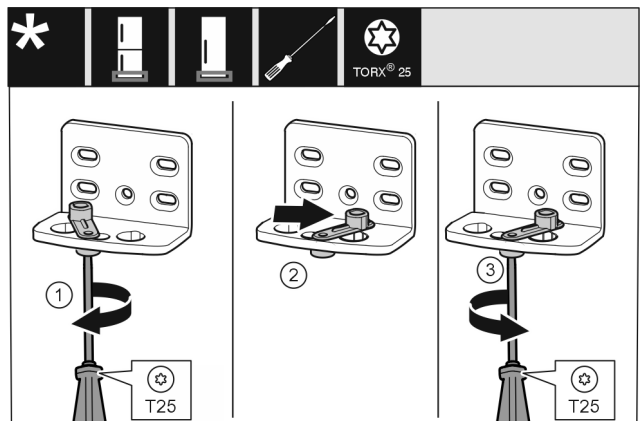

Fig. 17 \*
- Use screwdriver to loosen the screw Fig. 17 (1).\*
- Lift the door closing aid Fig. 17 (2) and turn 90° clockwise in the hole.\*
- Tighten screw Fig. 17 (3) with screwdriver.\*